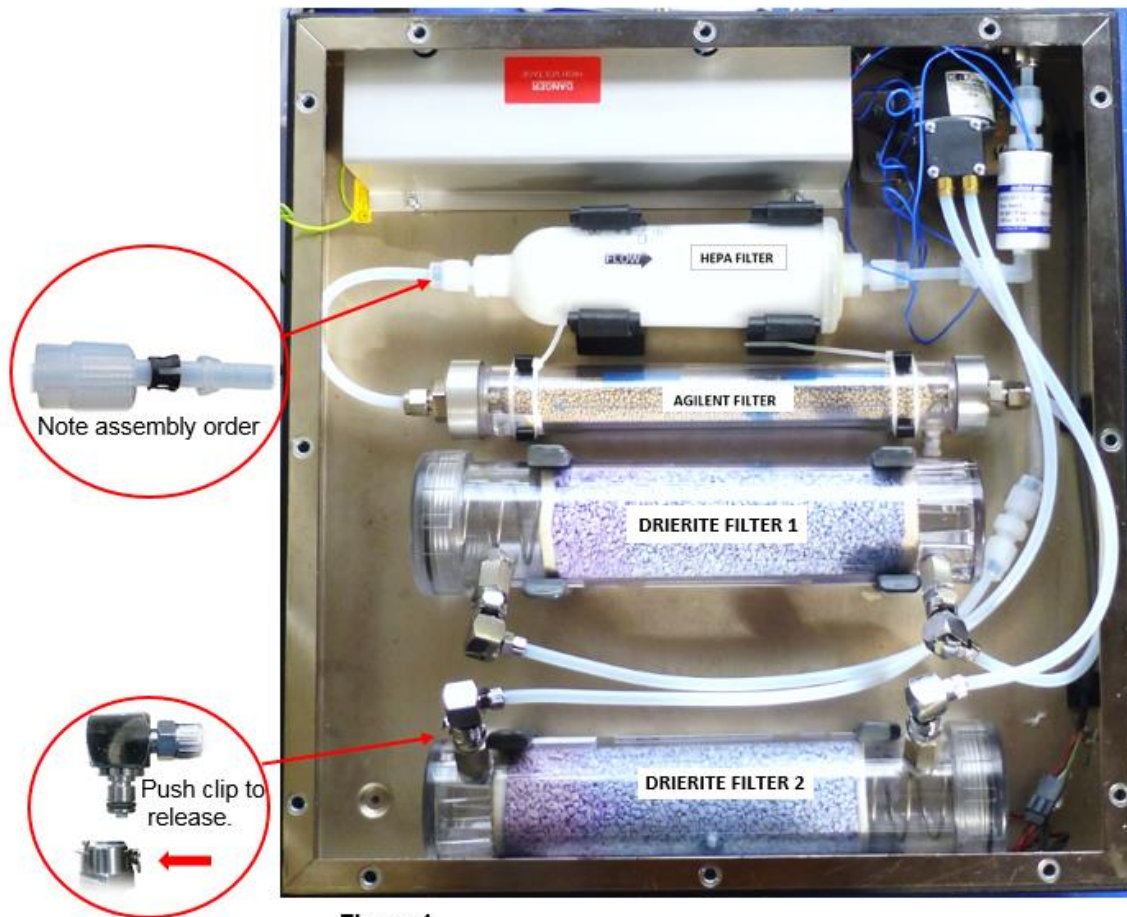

Figure 1
- Use a spanner to loosen the nut / screwcap. Detach the tube from the HEPA filter flow input by unscrewing the connection, remove the seals and screwcap. **Keep these for reuse later in process. (Figure 1)**
- Detach one tube from Filter 2 by pressing the release clip to free the connection as shown in **Figure 1**